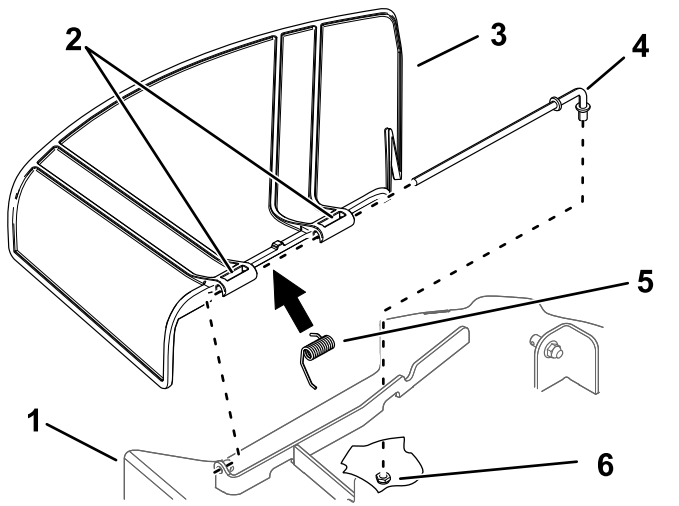

Figure 67
- Remove the nut (3/8 inch) from the rod under the mower (Figure 67).
2. Slide the rod out of the deck bracket, spring, and grass deflector (Figure 67).
4. Install the new grass deflector (Figure 67).
7. Slide the rod through the second grass-deflector pivot (Figure 67).
9. Secure the rear end of the rod into the mower with a nut (3/8 inch) as shown in Figure 67.